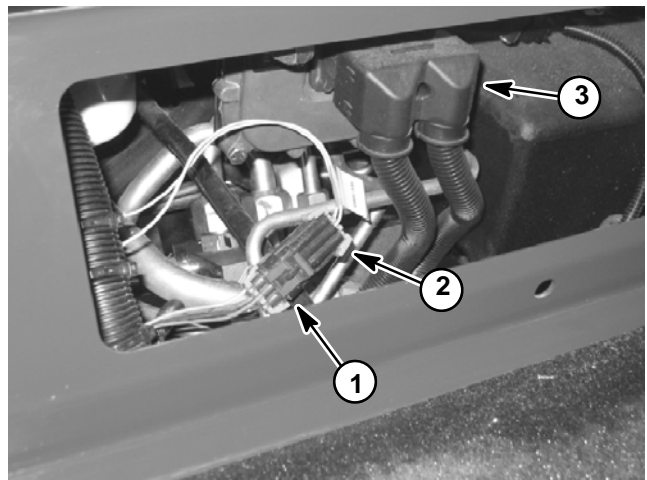

Figure 8
2. Remove plate in front of seat to allow access to wire harness loop-back connector. Locate wire harness and loop-back connector (Fig. 8). Carefully unplug loop-back connector from harness connector.